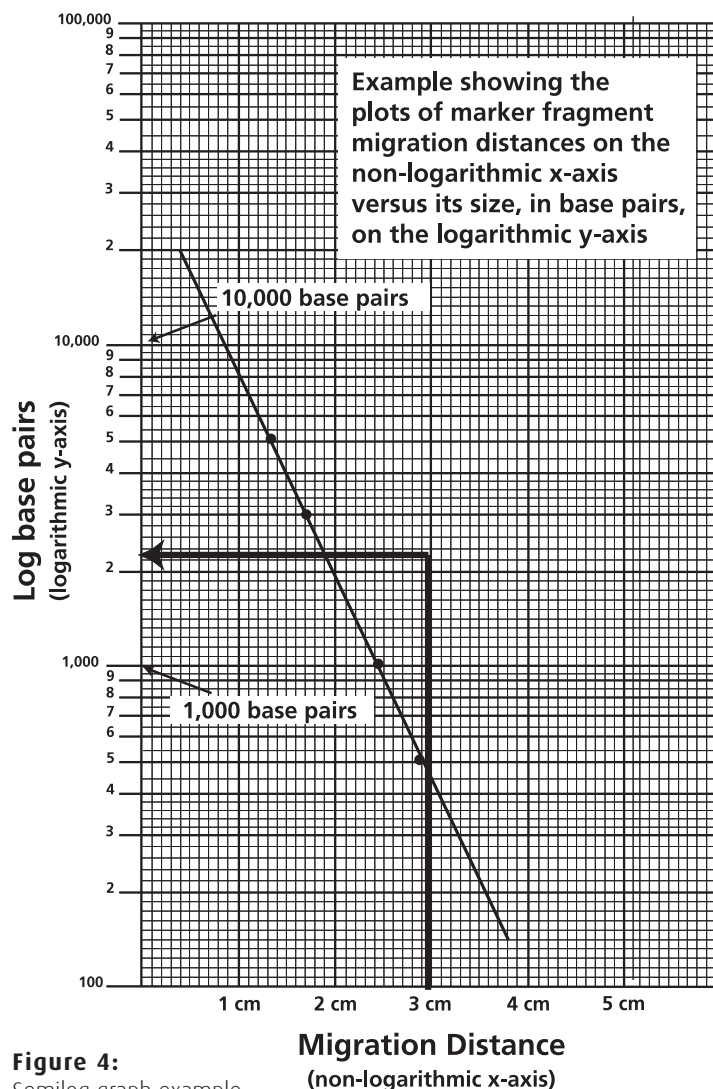

Figure 4:
After all the points have been plotted, use a ruler or a straight edge to draw the best straight line possible through the points. The line should have approximately equal numbers of points scattered on each side of the line. It is okay if the line runs through some points (see Figure 4 for an example).
- From the point of intersection, draw a second line, this time horizontally, toward the y-axis. The value at which this line intersects the y-axis represents the approximate size of the fragment in base pairs (refer to Figure 4 for an example). Make note of this in your lab notebook.